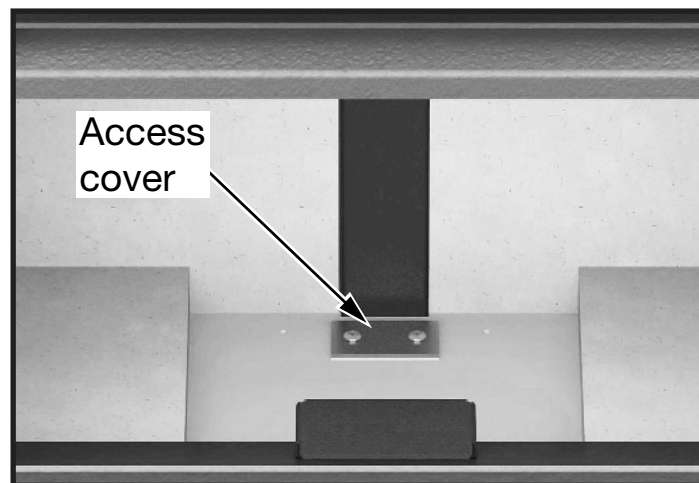

Figure 2: Draft box clean out cover.
1. The secondary air box access is located on the bottom rear of the fireplace and can be accessed for cleaning by removing the two bottom center bricks inside the fireplace (Figure 2). This will expose the access cover.